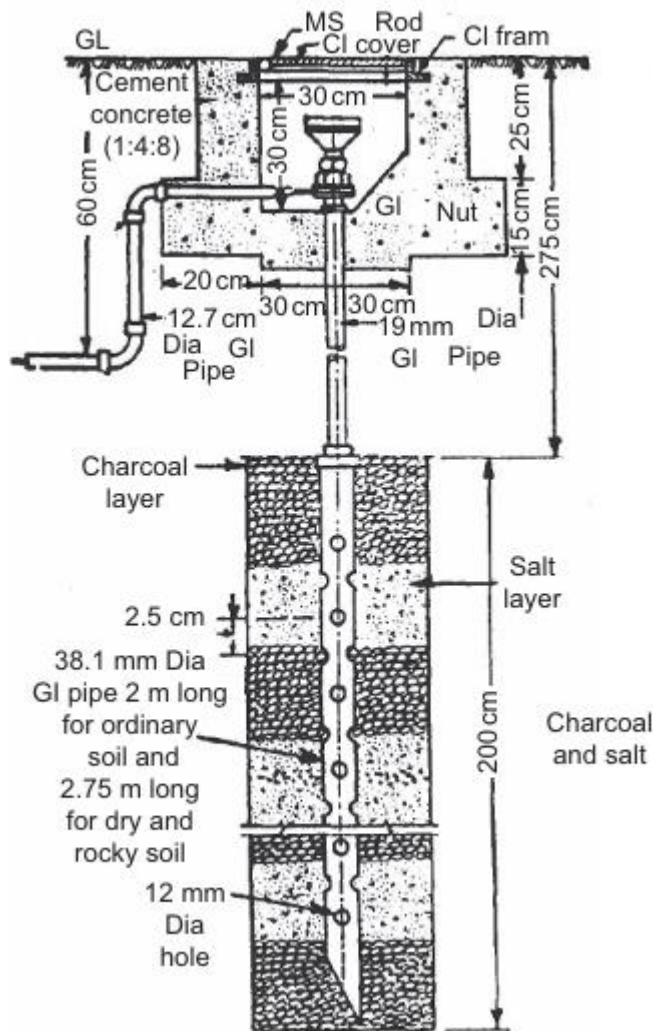

Fig. 1.5: Pipe earthing
- 4) Pipe earthing: Taking into consideration, the factors such as initial cost, inspection, resistance measurement, etc., G.I. pipe earthing is best form of ground connection. Iron is the cheapest material and remains serviceable even if put in salty mass of earth. The pipe used as earth electrode is galvanized and perforated. Its diameter is 38.1 mm and length is 2 m. The length may be increased to 2.75 m in case of dry soil. The diameter of the pipe has very little effect on the resistance of the earth connection. To facilitate the driving in of the pipe into ground, it is provided with tapered casting at the lower end. Another pipe of 19.05 mm diameter and of length 2.45 m is connected at the top of the above-mentioned pipe. The connection between these pipes is made through a reducing socket as shown in Figure 1.5.